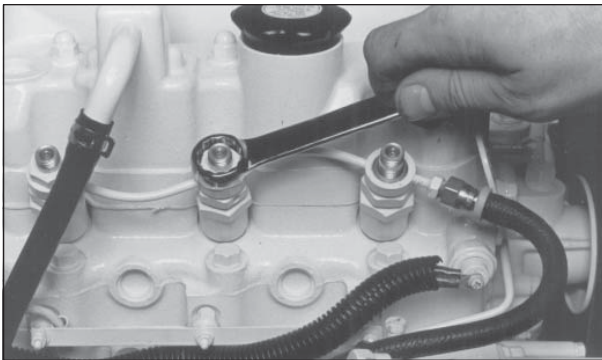
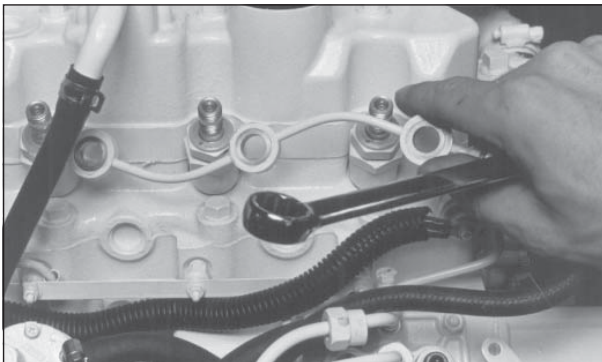

Figure 9: Remove return line nuts.
Figure 10: Remove return line.
- d. Remove the return line retaining bolts (Figure 9). Remove the return line (Figure 10).